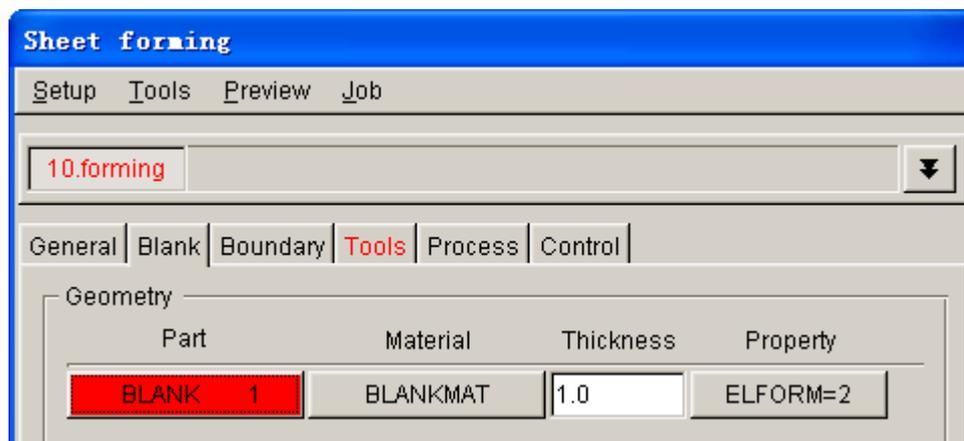

Figure 2.14 Blank definition interface
- Click **Exit** button to return to the blank definition interface. Now, the color of Blank tab is changed to from RED to BLACK. See Figure 2.14.